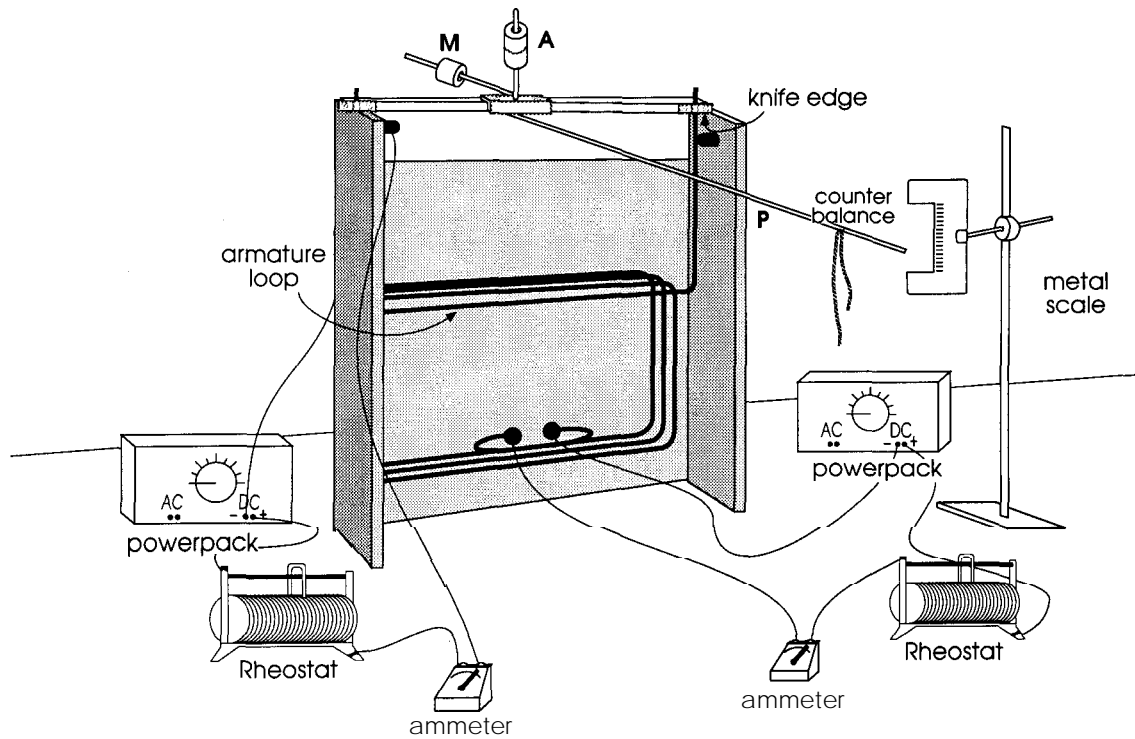

figure 1
• Using figures 1 and 2 assemble the armature fittings as follows: